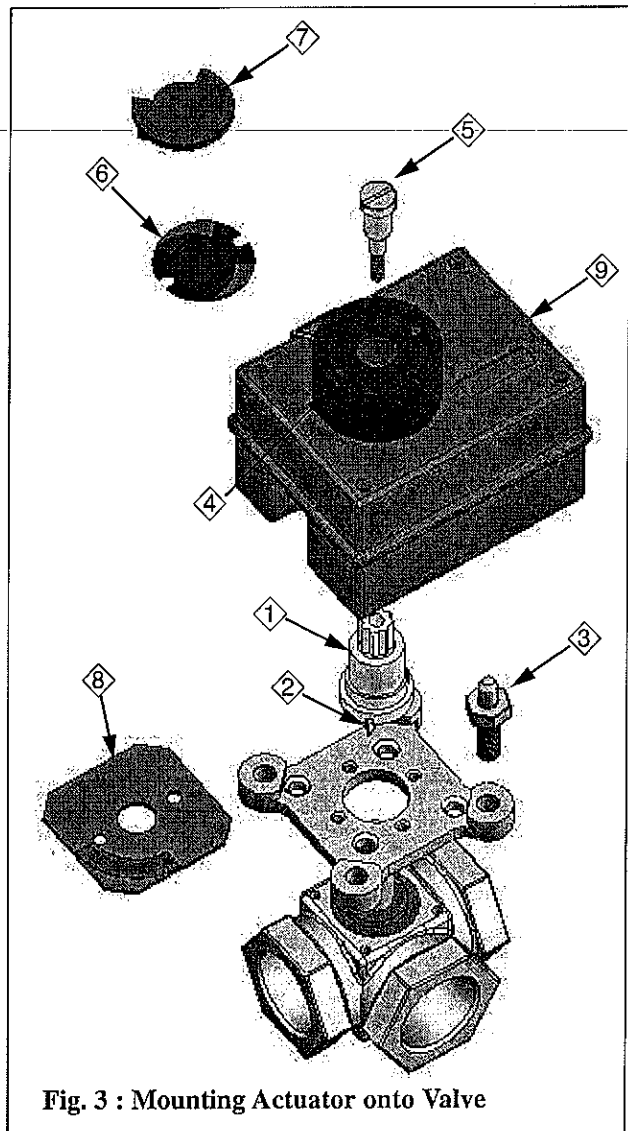

Fig. 3 : Mounting Actuator onto Valve
Orient the Face Plate (shown as item 8 in Fig. 3) on the valve so that "10" on the scale faces the Return port. With this orientation, a valve setting of 0 will provide a fully closed position of the valve and 100% 2nd Circuit system flow or AC flow pattern is established.